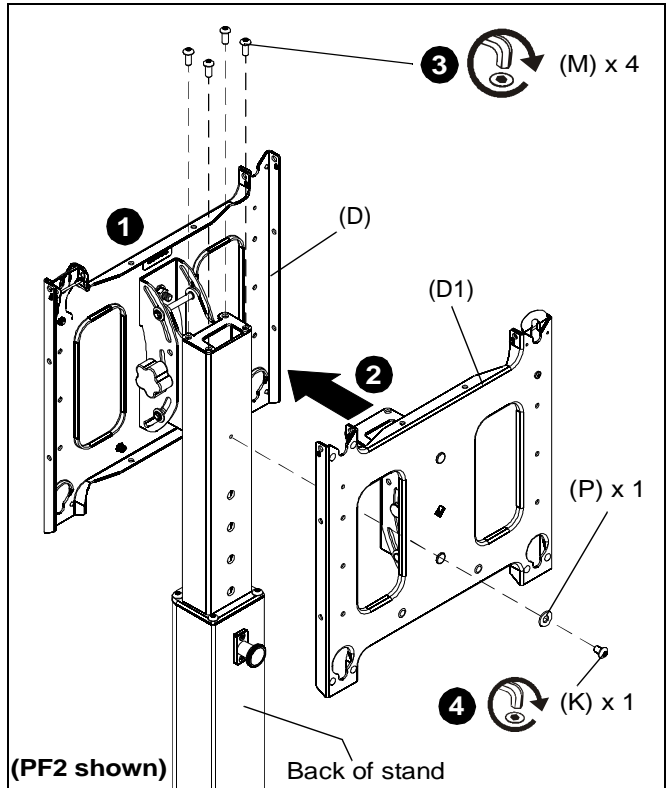

Figure 9
1. Slide front head assembly (D) or (E) into the stand assembly. (See Figure 9)
2. Place back head assembly (D1) or (E1) on the back of the stand assembly, and on top of the front head assembly. (See Figure 9)
3. Use four 5/16-18 x 3/4" button head cap screws (M) to fasten through both head assemblies. (See Figure 9)
4. Fasten through back head assembly (D1 or E1) and back of stand assembly using one 1/4-20 x 3/8" button head cap screw (K) and one 1/4" washer (P). (See Figure 9)